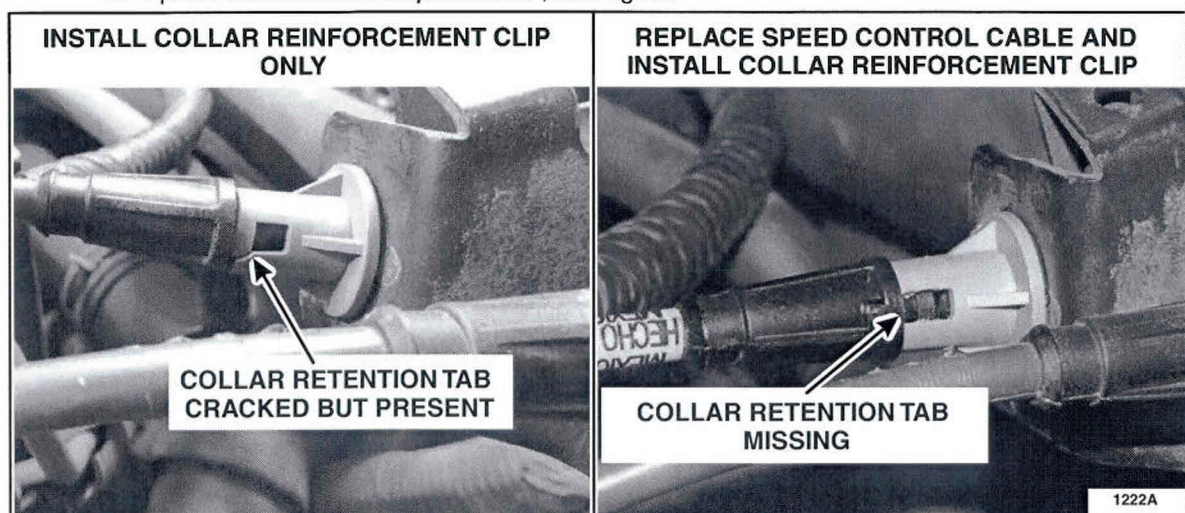

FIGURE 1
2. Inspect both sides of the Speed Control Cable collar for cracked or missing retention tabs. See Figure 1.